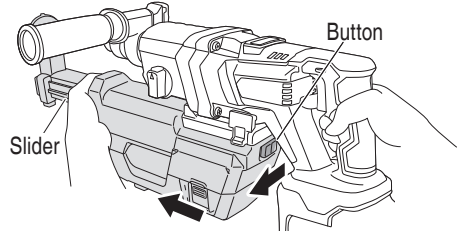

Fig. 7
- (1) Hold the dust extractor system's slider in one hand and remove the dust extractor system with the other hand by using the index finger to slide the button at the rear of the unit. (Fig. 7)